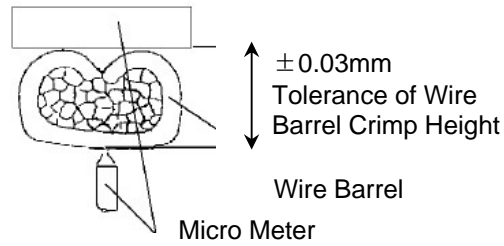

Fig. 8
- (4) Modified micrometer for measurement of crimp height (See Fig. 8)